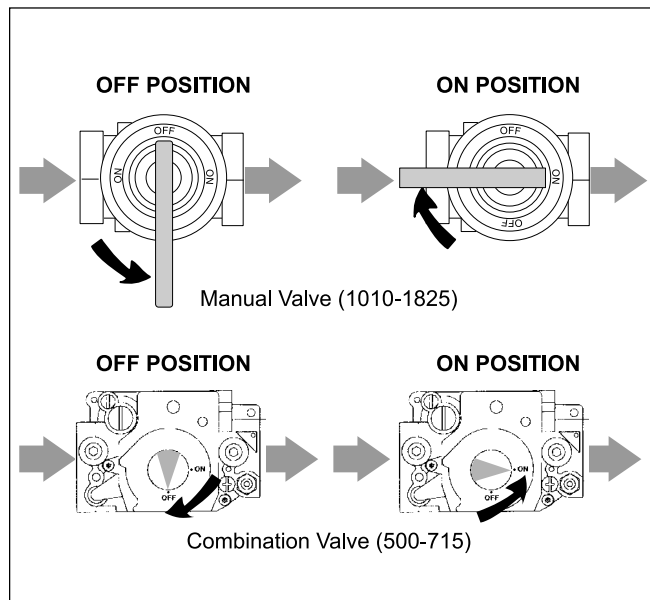

Figure 19. Handle Position of Gas Valves.
- b. Sizes 1010 through 1825: Manual gas valve is OFF when handle is at right angle to the gas pipe (see Figure 19).
- a. Size 500 and 715: Turn counterclockwise to ON (see Figure 19).
- b. Sizes 1010 through 1825: Valve is ON when handle is parallel to the gas pipe (see Figure 19).
6. Turn off manual gas valve. Valve is off when valve handle is at right angle to the gas pipe. On combination valves (size 500 and 715) turn gas control knob clockwise  to OFF position (see Figure 19).
7. Wait five (5) minutes to clear out any gas. Then smell for gas, including near the floor. If you smell gas, STOP! Follow the safety information titled "Before Operating". If you don't smell gas, go to next step.